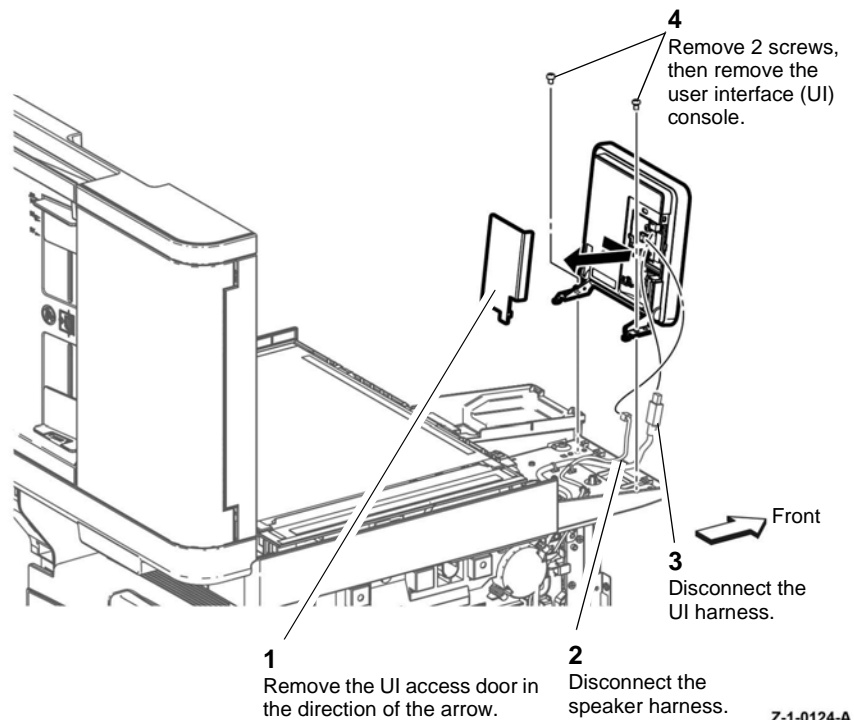

Figure 3 User interface console C405
- Remove the user interface console, Figure 3.